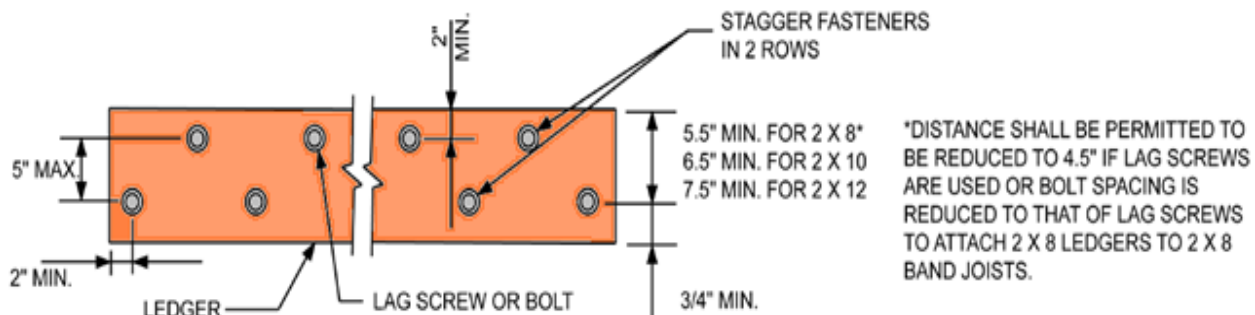

FIGURE R507.2.1(1)
- a. Lag screws or bolts shall be staggered from the top to the bottom along the horizontal run of the deck ledger in accordance with Figure R507.2.1(1).
d. The minimum distance from bottom row of lag screws or bolts to the top edge of the ledger shall be in accordance with Figure R507.2.1(1).